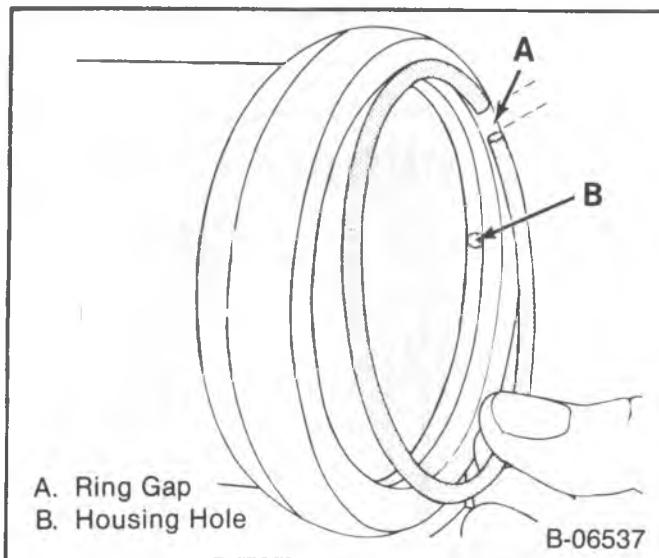

Figure 22—Installing the Retaining Ring
- Nut (227) to 27 N·m (20 ft.lbs.).
5. Re-check the preload after tightening the nut (227).
8. Plug (215), seal (216), ring (217), and seal (218).
9. Plug (219) and retaining ring (220) (figure 22).